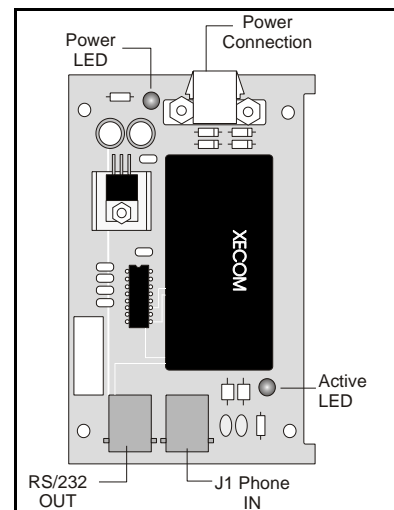

Figure 36: Modem
1. To replace a modem, first disconnect the power and signal connections (refer to **Figure 36** on the right for the location of the power jack).